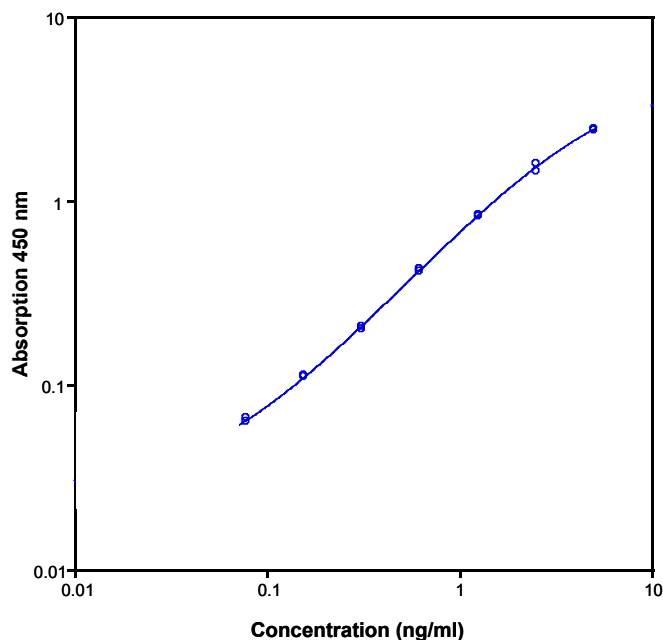

Fig. 7 Representative standard curve for Human sTNF-R (60kDa) ELISA Kit. Human sTNF-R (60kDa) was diluted in serial 2-fold steps in Assay buffer (1x).
- A representative standard curve is shown in Figure 7.